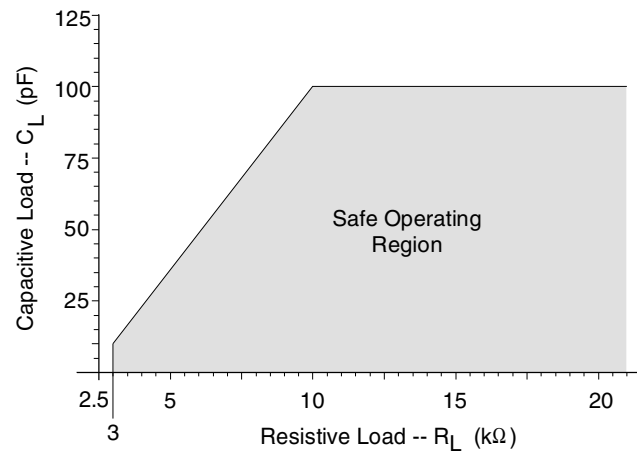

Figure 2. Maximum DAC Loading
- Guaranteed by design. See Figure 2. R_L and C_L reflect the recommended minimum resistance and maximum capacitance required for the internal op-amp's stability. C_L affects the dominant pole of the internal output amp; increasing C_L beyond 100 pF can cause the internal op-amp to become unstable.